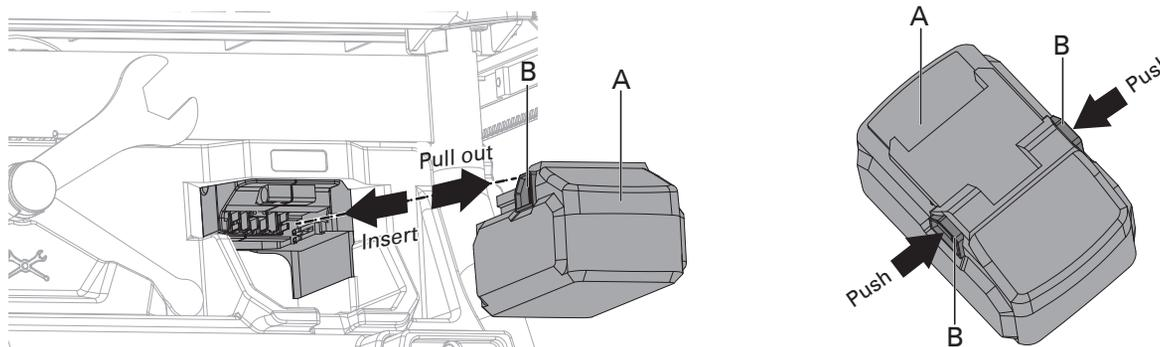

Fig. 16a
REMOVAL AND INSTRUCTION METHOD OF BATTERY OR AC/DC ADAPTER (Fig. 16a-16d)
Always insert it all the way until it locks in place with a little click, If not, it may accidentally fall out of the tool, causing injury to you or someone around you (Fig. 16a).
Withdraw battery (A) or AC/DC adapter from the tool while pressing the latch (B) (2 pcs) of the battery (A) or AC/DC adapter (Fig. 16a).